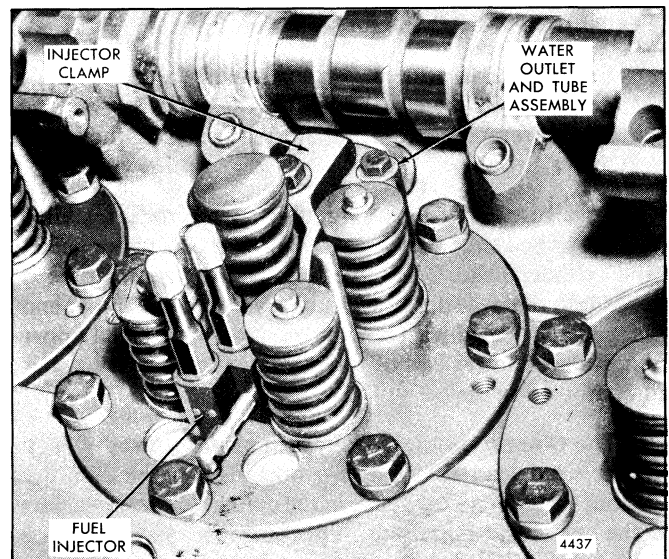

Fig. 4 - Location of the Fuel Injector and Water Outlet Elbow
9. Remove the cylinder head water outlet elbow and tube assembly from the cylinder head and block (Fig. 4).